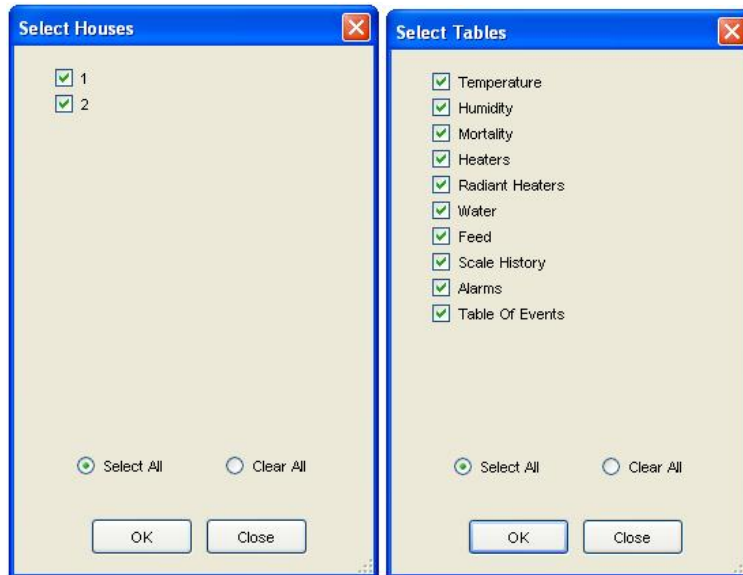

Figure 41: Select Houses/Tables windows
Figure 41 appears. Select the required houses and click **OK**.
- g) **Select Tables:** To select either a specific table or all tables, click **Select Tables**. Figure 41 appears. Choose the required tables and click **OK**.